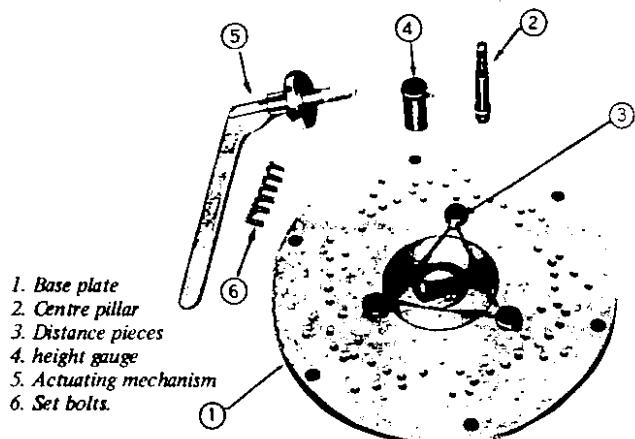
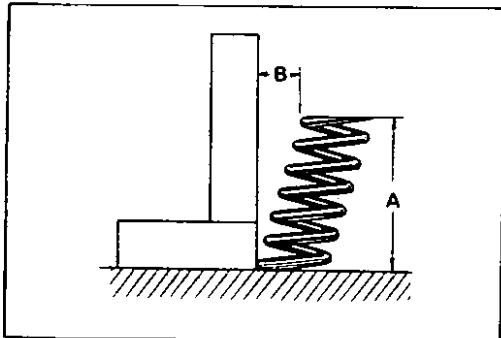

Fig. E.3 Clutch assembly tool.
Fig. E.5 Checking the height of the diaphragm spring.
A special tool No. ST20050000 is available to ensure that the clutch can be dismantled and accurately reassembled. The tool, shown in Fig.E.3. consists of a Base plate (1), Centre spigot (2), Distance pieces (3), Height gauge (4), Operating lever (5), Securing bolts (6).
With the diaphragm spring assembled to the pressure plate inspect the spring height and load in the following manner. Place distance pieces of 7.8 mm (0.307 in) on the base plate as shown in Fig.E.3. and bolt down the clutch cover, using the special bolts provided with the kit. Measure the height "B" in Fig.E.5. at a diameter of 44mm (1.732 in). The release fingers should not exceed a height of 43 - 45 mm (1.693-1.772 in) from the base plate. Replace the spring if the height is in excess of the figures quoted.